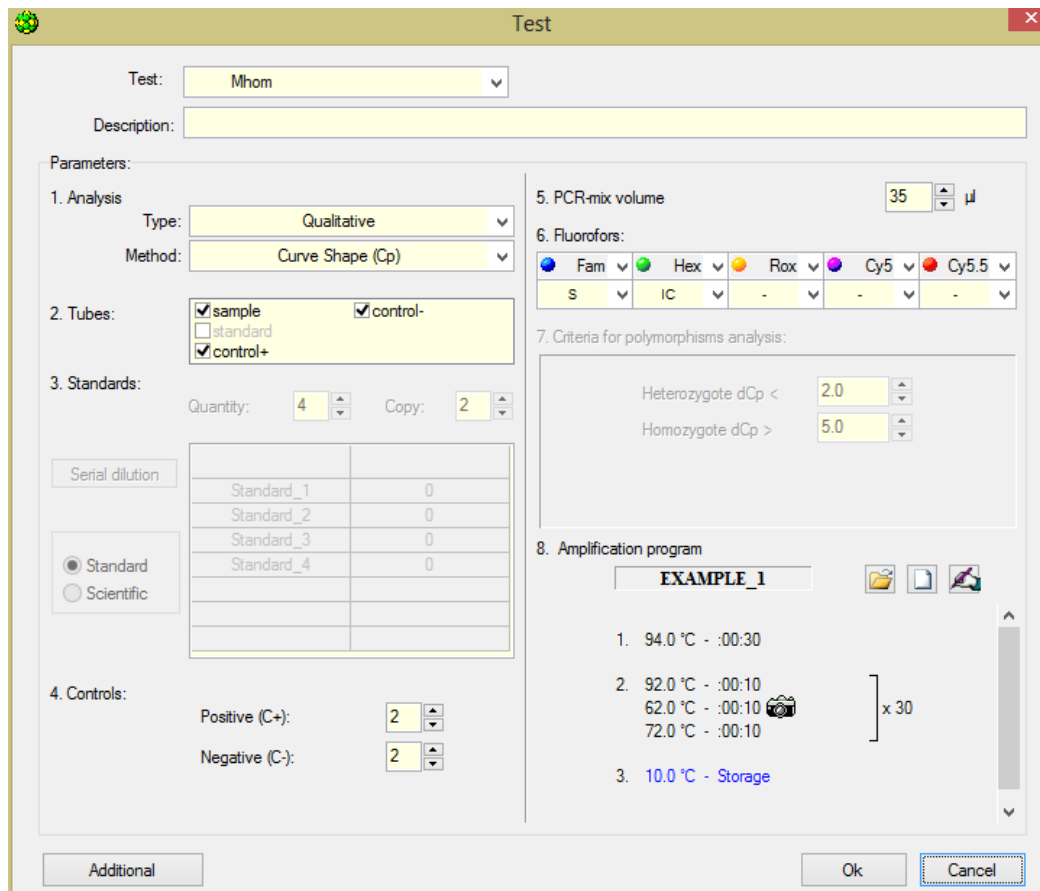

Fig.18 The Test window
1. To edit the Test in the window **Create/Edit test** select the Test and click **Edit current test**. The Test window appears (Fig.18).
The description and Test parameters are indicated in the **Test** window (Fig.18).